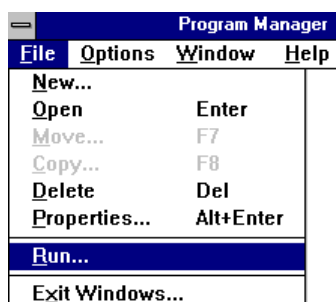
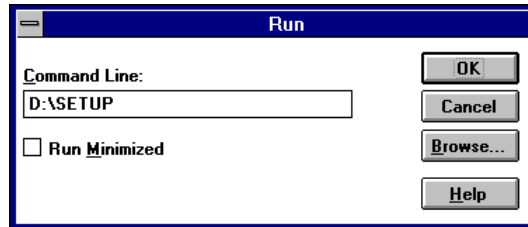
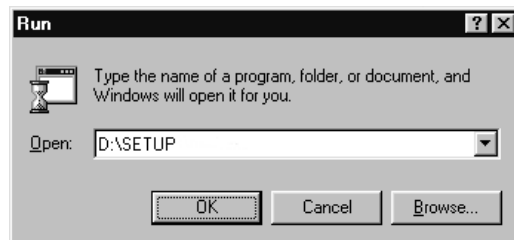

Figure 4: Installation under Windows 3.1x
Figure 5: Starting installation under Windows 3.1x
Figure 6: Starting the installation program
3. In 'Program Manager' select the 'Run' option from the 'File' menu (see figure 4).
4. Type [D:\SETUP.EXE] in the command line. Click on 'OK' (see figure 5). The installation program starts (see figure 7).
3. Type [D:\SETUP.EXE] in the command line and press <ENTER> (see figure 6). The installation program starts (see figure 7).
4. Type **[D:\SET-UP.EXE]** in the command line. Then click 'OK'. See figure 4. After a few seconds, the installation program starts. See figure 6.
2. Place the CD in your CD-ROM drive. The program usually starts automatically. If so, go on to item 5.
4. Type **[D:\SET-UP.EXE]** in the command line and press **<ENTER>**. See figure 5. After a few seconds, the installation program starts. See figure 6.